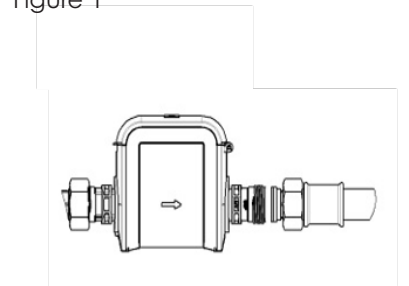

Figure 2
2. Check for the proper distance between the pipe unions to avoid mechanical stress. (Figure 2)